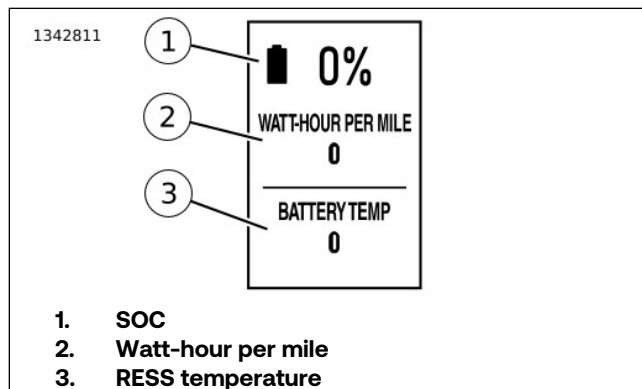

Figure 41. Battery Widget
See Figure 41. The battery widget displays SOC (1), watt-hour per mile (2), and RESS temperature (3).